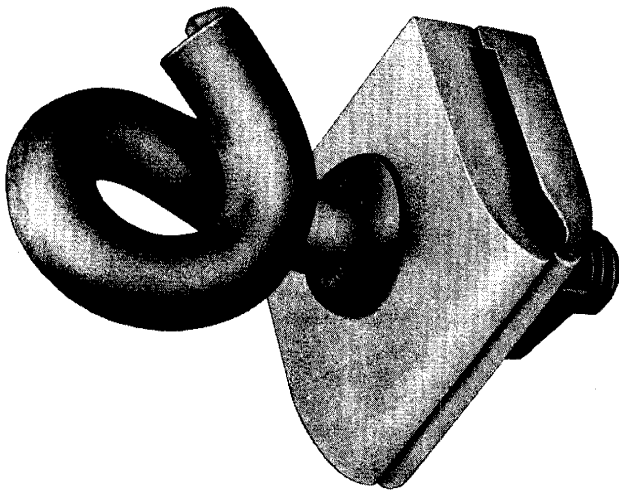

Fig. 1—E Span Clamp
1.03 ♦The E Span Clamp (Fig. 1) was designed to be used on suspension strand and the jacketed strand of self-supporting cable. *However, when the E Span Clamp is used on suspension strand supporting lashed lead sheath cable, a B Cable Guard must be placed around the cable beneath the Span Clamp to provide mechanical protection from the jaws of the clamp (Fig. 5).*♦